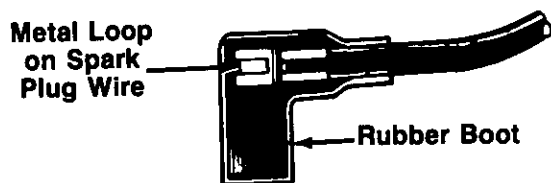

FIGURE 11.
1. Attach spark plug wire to spark plug. Make certain the metal loop on the end of the spark plug wire (inside the rubber boot) is fastened securely over the metal tip on the spark plug. See figure 11.